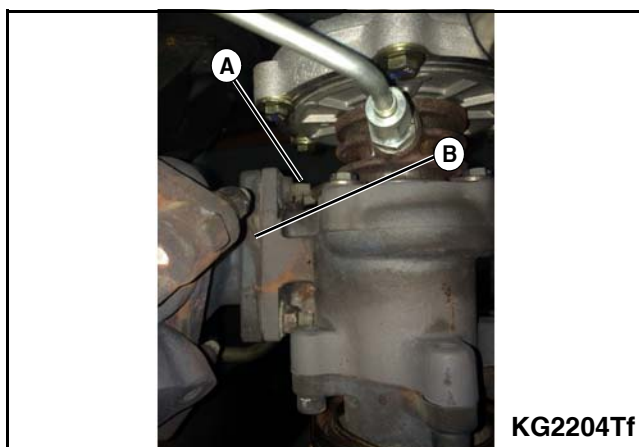

Figure 3-48
7. Remove the four nuts (A) on the turbocharger exhaust adapter flange. Remove the turbocharger from the exhaust adapter flange and remove the flange adapter gasket (B). **See Figure 3-48.**